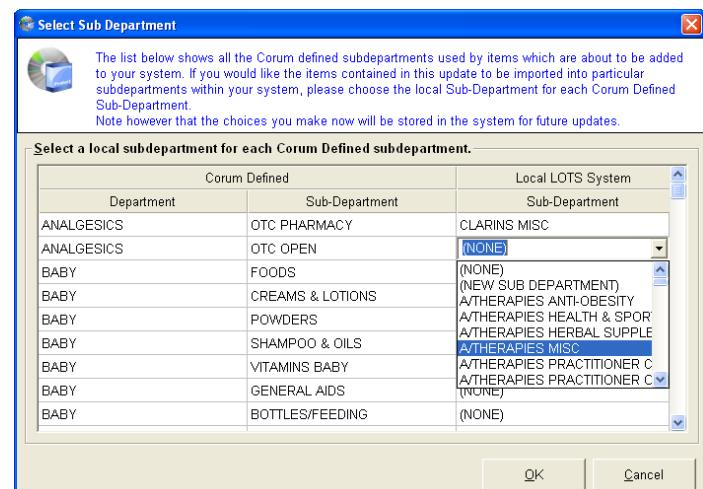

Figure 262
21. To link one of your defined sub-departments to a 'Corum Defined' one, double-click in the LOTS 'Sub-Department' field. This will display a drop-down box allowing you to select from a list of your defined sub-departments (as shown in Figure 262).